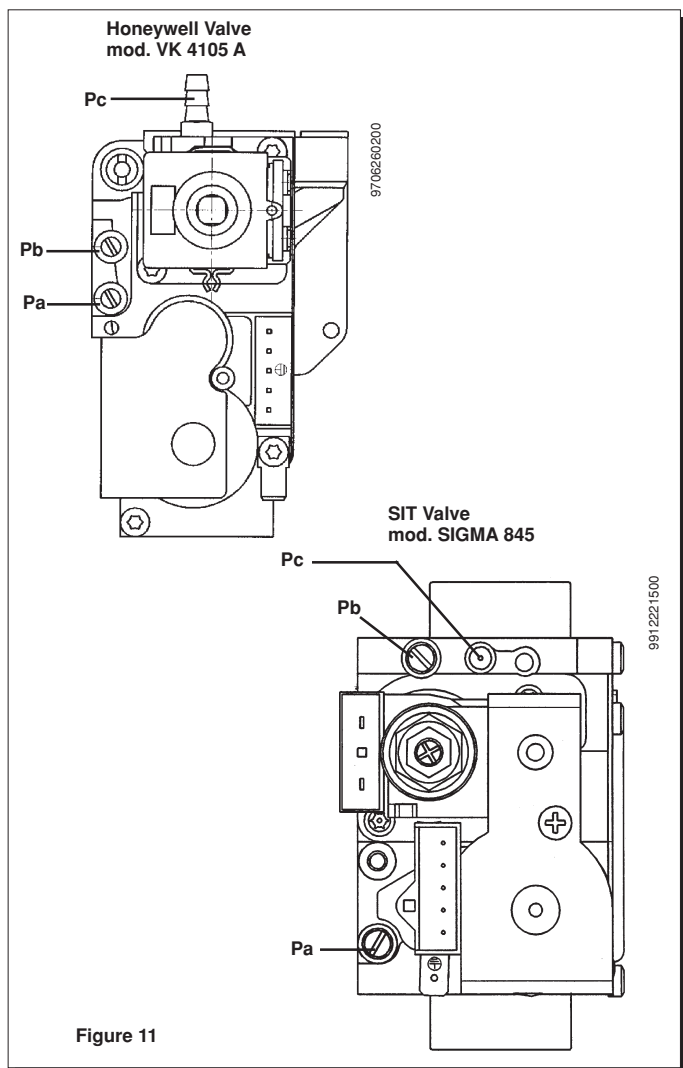

Figure 11
The procedure for calibrating the pressure regulator may vary according to the type of gas valve fitted (HONEYWELL or SIT; see figure 11).
- connect the positive pressure test point of a differential (possibly water-operated) manometer to the gas valve pressure test point (Pb) (Figure 11); connect, for sealed chamber models only, the negative pressure test point of the manometer to a “T” fitting in order to join the boiler adjusting outlet, the gas valve adjusting outlet (Pc) and the manometer. (The same measurement can be carried out by connecting the manometer to the pressure test point (Pb) after removing the sealed chamber front panel);